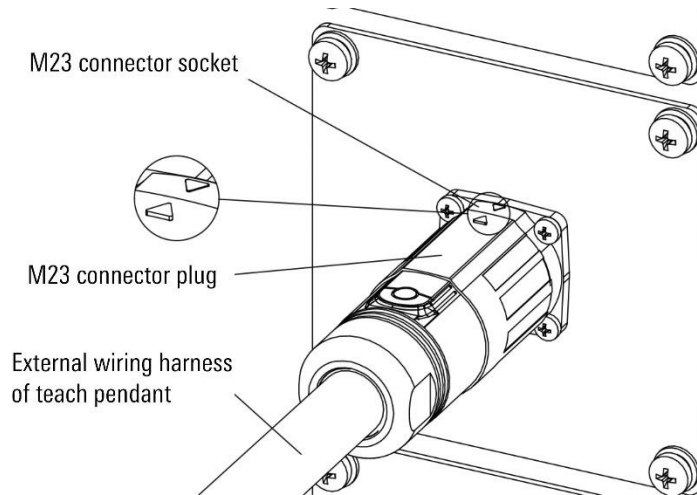

Figure 10-8 Teach pendant connection interface
Step1. The teach pendant connection interface adopts quick-plug connector connection. Align the triangle symbol on the M23 connector plug of the external wire harness of the demonstrator with the triangle symbol on the M23 connector socket (such as the enlarged view in Figure 10-8), push the plug, and rotate 45 degrees clockwise to clamp it with the socket.